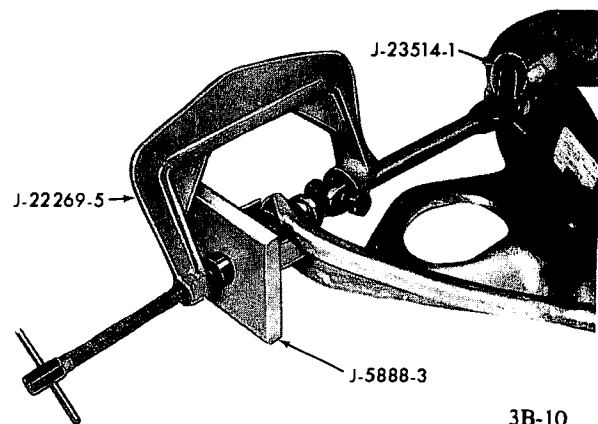

Figure 3B-9 - Installing Front Upper Control Arm Bushing Keeper
1. Using Special Tools J-22269-5 and J-5888-3 and one of the support shaft bolts as shown in Figure 3B-9, tighten
2. Turn control arm around and install Tool J-22269-5 over J-23514 as shown in Figure 3B-10 and tighten screw against J-5888-3 to remove bushing.